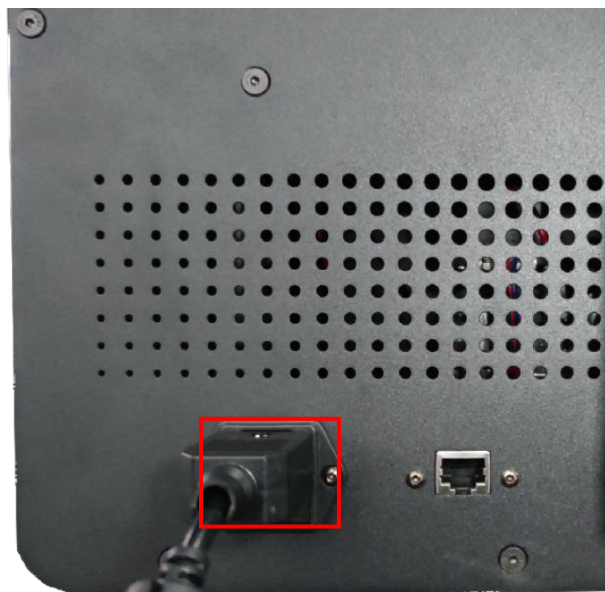

Figure 3-1
1. After opening the packaging, take out the accessories inside, take out the power cord and wireless antenna from the accessories, connect the power cord and the power socket at the back of the printer, and plug in the wireless network card. As shown in Figure 3-1